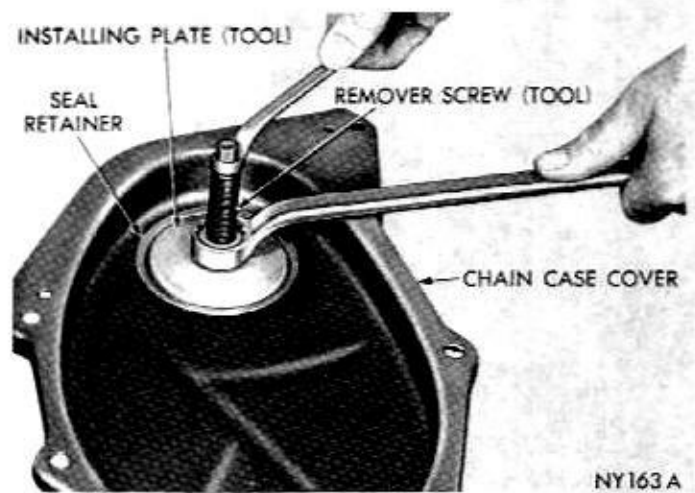

Fig. 24—Installing New Seal
(8) Install flat washer and nut on the remover screw; hold screw and tighten nut (Fig. 24).